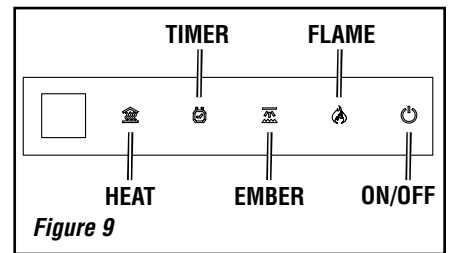

Figure 9
1. Complete the framing opening to the dimensions specified in **Figure 3**. Ensure that the fireplace is in the off position (see **Figure 9**).
This appliance can be activated by using the touch panel control (see **Figure 9**) or by using the remote control when the unit power switch is already in the "ON" position.
The manual touch panel controls with LED display are located at the lower right corner of the fireplace (see **Figure 9**).